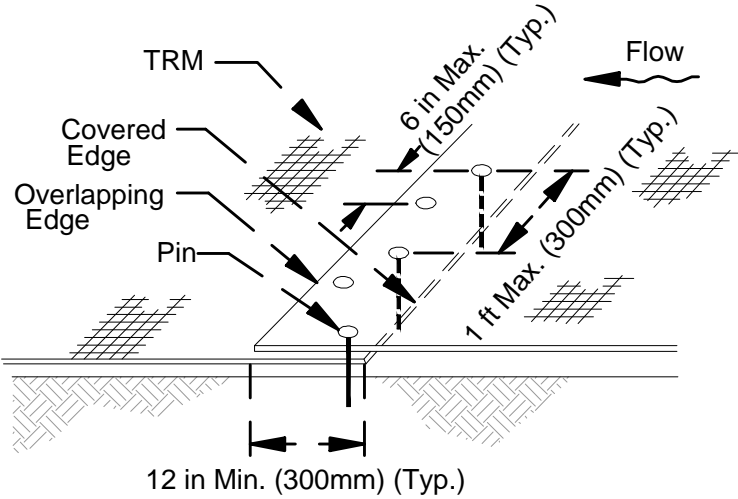

FIGURE 5: TRM OVERLAP AT ROLL END DETAIL
- B. Roll end overlap: 12 in (300 mm) minimum overlap with upstream mat on top. Secure with two rows of ground pinning devices staggered 12 in (300 mm) apart on 12 in (300 mm) centers (see Figure 5).